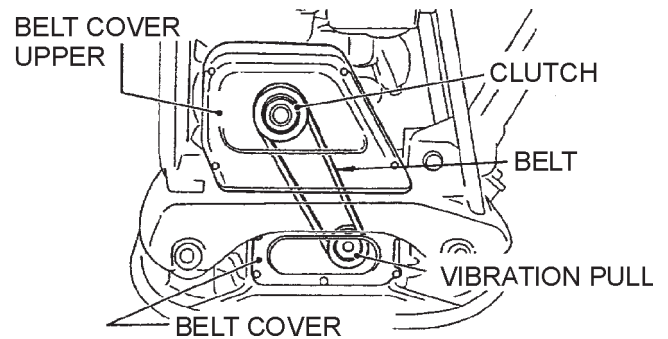

Figure 9. V-Belt Location
1. To check the V-belt tension (Figure 9), remove upper belt cover.